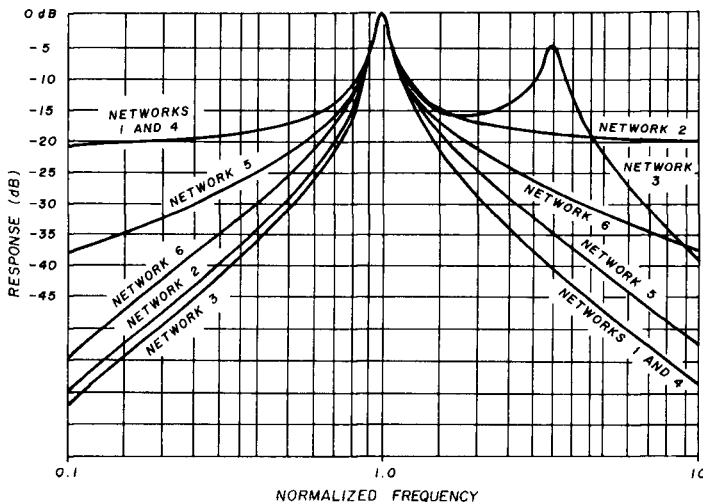

fig. 6. Frequency response of the six networks with the band center normalized to 7.15 MHz.
**Fig. 6** shows the frequency response over a two-decade range for the examples given. Voltage response has been calculated with constant end resistances. As such, it will be the same in either direction. Frequency is normalized to 7.15 MHz.